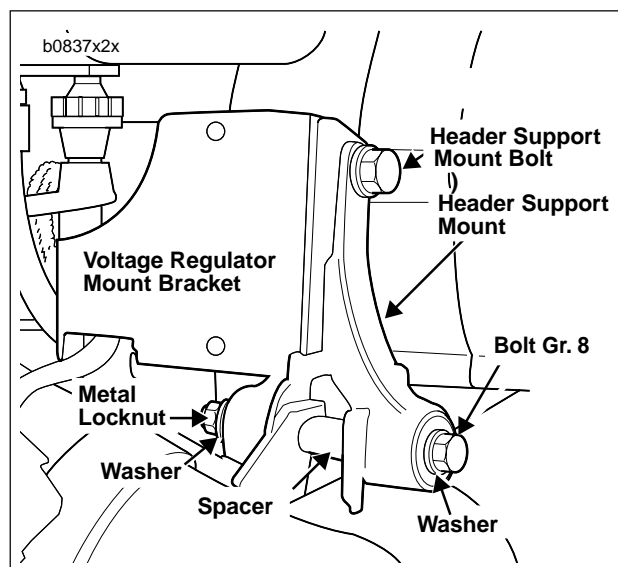

Figure 2-105. Header Support Mount
3. See Figure 2-105. Remove lower bolt (Gr. 8), metal locknut, washers and spacer from header support mount at the front of the muffler.
3. See Figure 2-105. If removed, attach front muffler support to crankcase.
7. See Figure 2-105. Secure muffler to header support mount with bolt, locknut and washers. Tighten to 22-24 ft-lbs (30-33 Nm).